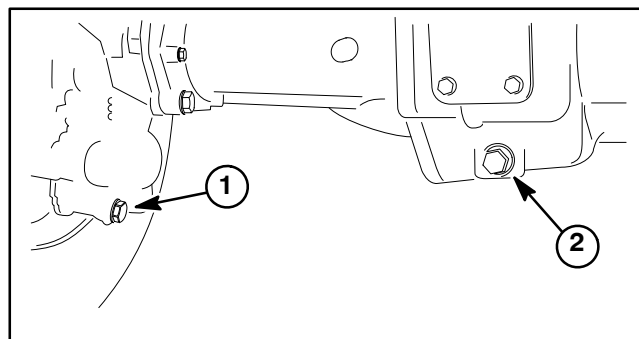

Figure 12
2. Drain oil from rear axle and rear axle gearbox (Figs. 12 and 13).